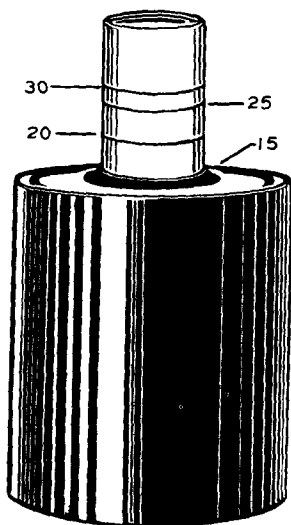

Fig. 8—Allen-Bradley Overload Relay
(2) To adjust the Allen-Bradley relay which is shown in Fig. 8, remove the dashpot. Turn the core until the desired calibration line is flush with the top edge of the dashpot. Use care to avoid spilling oil out of the dashpot. If there is reason to believe that the oil in the dashpot has become gummy or dirty, it may be replaced, first removing the piston which is carried by the core. To remove, gently knock the coverplate loose from the top of the dashpot by pulling upward on the core. Clean out the old oil and refill with KS-8321 dashpot oil, if readily available,